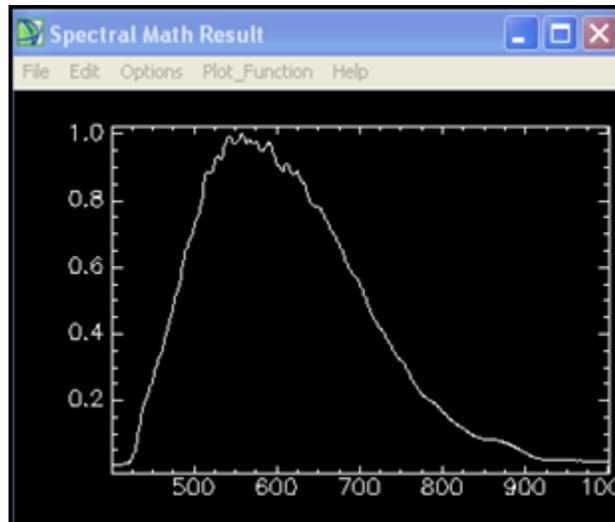

Figure 6.1e. Correction Spectrum
- Save the Correction spectrum as a Spectral Library using the File > Save Plot As > Spectral Library tool. Use the file name Correction Spectrum - SL, which identifies it as the current correction spectral library. Save it in your imaging folder where it can be accessed easily with the Normalized for Lamp Spectrum feature. Note the maximum value of the curve is 1.0 (Figure 6.1e).